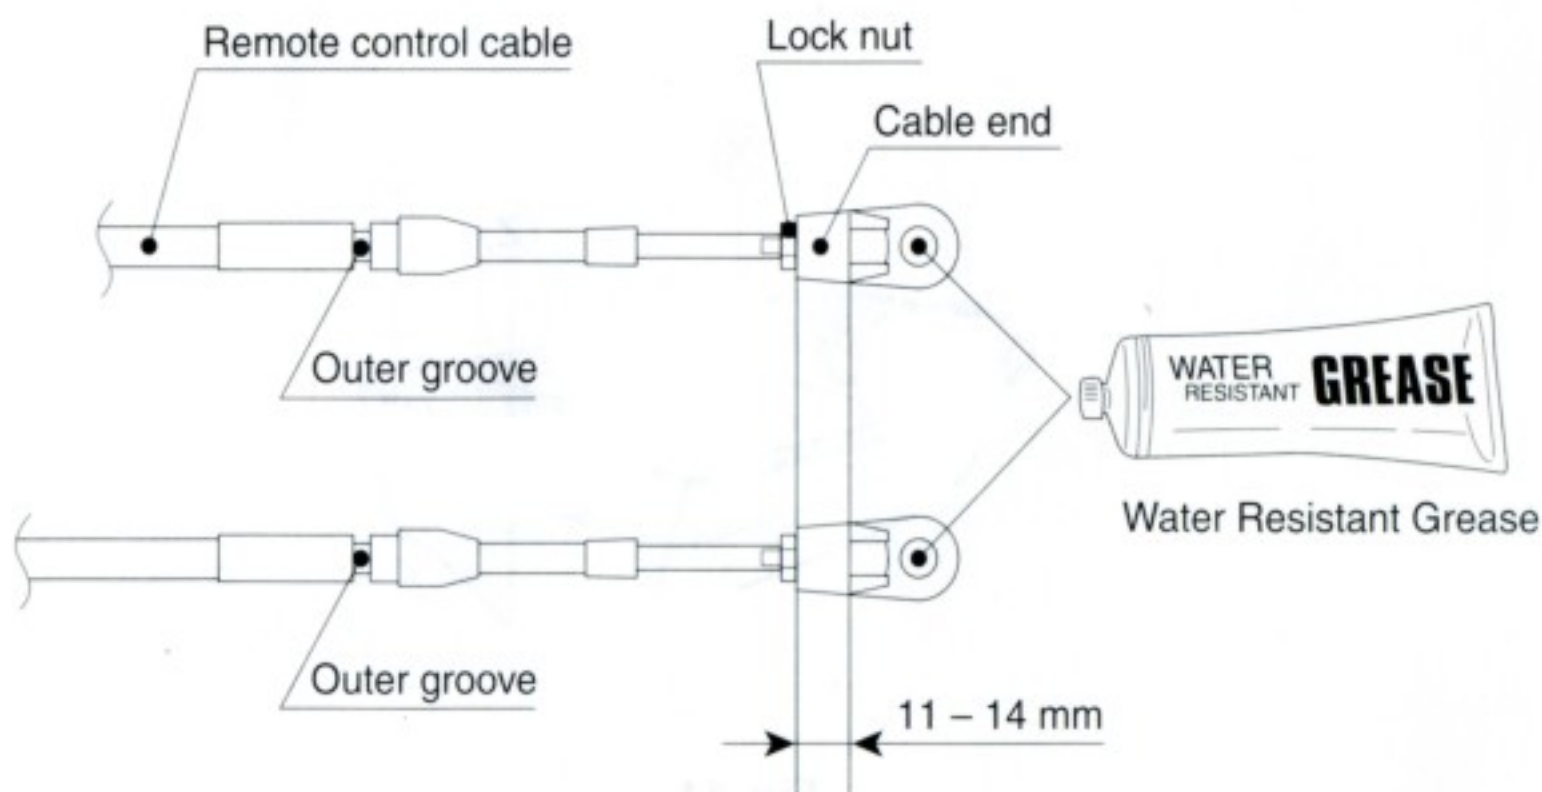
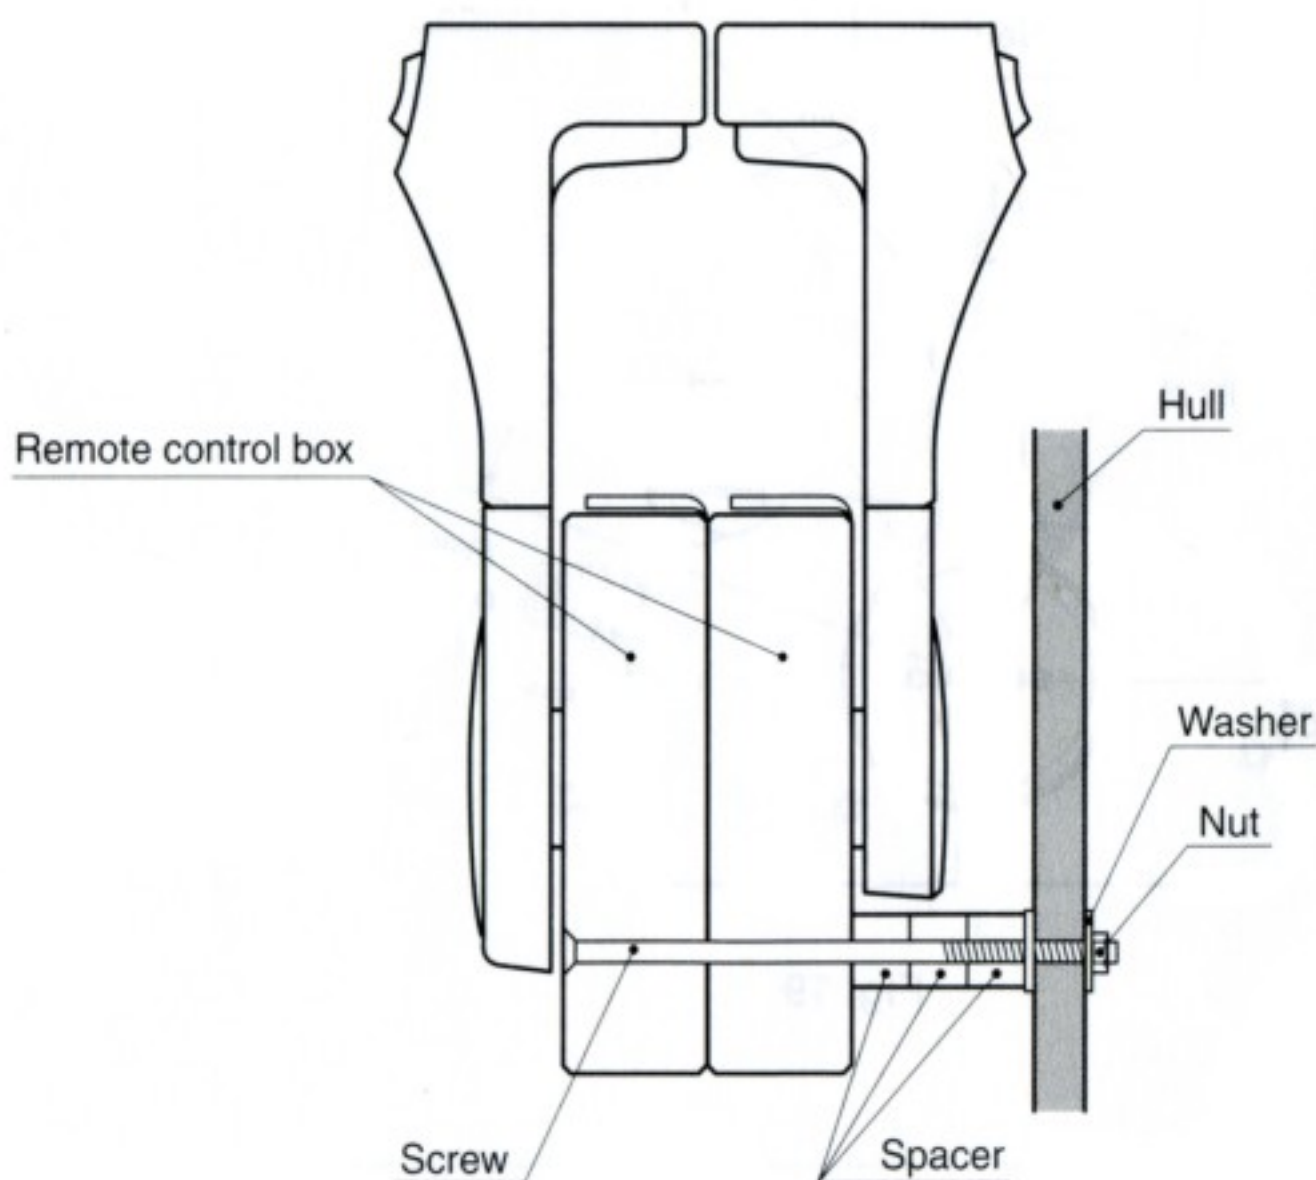

Fig. 13
Fig. 21
- 3) Insert the outer groove (See Fig. 13) of the shift remote control cable ③ into the clamp groove ④ of the housing.
- For the remote control cable end on the remote control box side, the thread engaging depth shall be 11-14 mm. (See Fig. 13.)
(6) Twin attachment kit
- In the case of twin engine installation, two remote control boxes can be installed on the boat as shown in Fig. 21 using the twin attachment kit that is available separately.
- To secure sufficient space for remote control operation, use 2-3 spacers side by side on the screw. (See Fig. 21.)